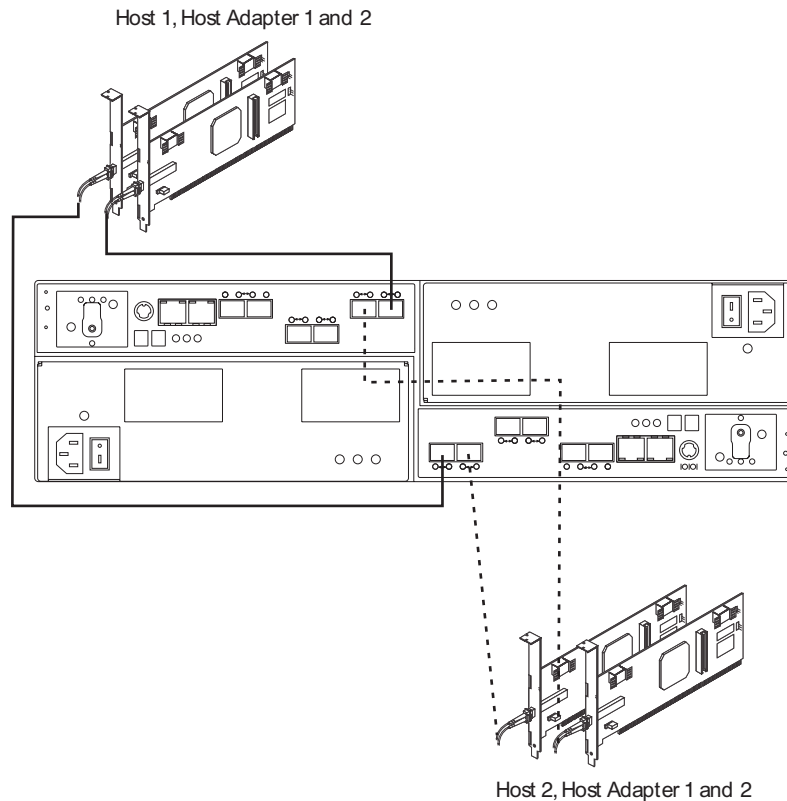

Figure 55. Cabling diagram for two redundant host connections
3. Repeat steps 1 on page 84 and 2 for each additional redundant host connection. You can create two redundant host connections for the DS5020 storage subsystem, as shown in Figure 55 on page 86, or a maximum of four redundant host connections (not shown). With four redundant host connections, you can have a connection to a DS5020 Fibre Channel host bus adapter or to Fibre Channel switch ports.